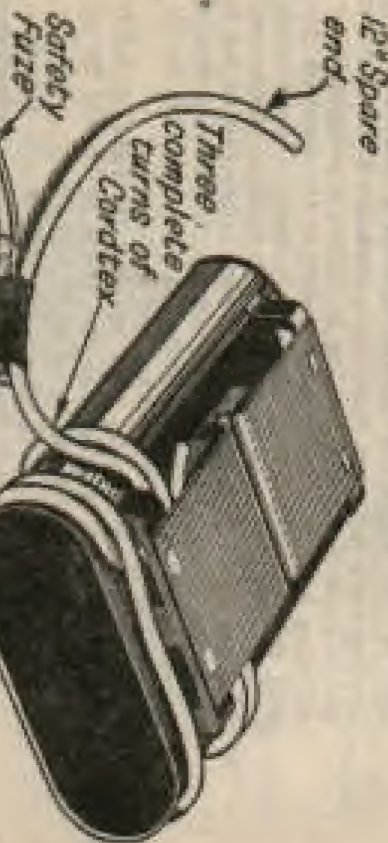

Fig. 6. No. 25 grenade prepared as a demolition charge
(b) *Initiation.*—The grenade will be initiated by wrapping three turns of detonating fuse (see Sec 5) round the end containing the primer, as shown in Fig 6. It is NOT to be detonated by the igniter set supplied for use when it is employed as an anti-tank mine. If an attempt is made to initiate it with detonator and safety fuse or detonating fuse in one of the normal detonator holes, failures up to 50 per cent may result. There are two reasons for this. First, when the detonator is fired by the igniter set (i.e. when in use as an anti-tank mine), the pressure on the plate tends to press the detonator down on to the priming charge. This does not occur when the grenade is used as a demolition charge. Secondly, the safety fuse may contract in length as it burns and drive the detonator back so that it is not directly over the priming charge when it explodes.
- Inserting safety fuse into detonator.*—Cut one end of the fuse with a sharp knife on a hard surface, taking care to make a clean cut; take a detonator from the box and empty any sawdust or other foreign matter out of it by tapping on the thumbnail. Insert the squared end of the safety fuse into the detonator and push it gently but firmly as far as it will go. Do NOT employ any screwing action. Hold the safety fuse between the third finger and thumb and crimp the detonator on to the fuse near the open end with a pair of crimping pliers, holding the detonator in place with the forefinger while doing so (see Fig 6); or use the machine spike of a jack knife. The use of the teeth is not recommended. NEVER CRIMP THE DETONATOR NEAR THE CLOSED END.
All ranks concerned must understand the possible causes of failure and must also realize that however much care is taken, no initiating set can ever be guaranteed as 100 per cent certain. The set cannot be tested; as the only test is to fire it. Consequently on all important demolition work, particularly assault work, and particularly always, **TWO INITIATING SETS SHOULD BE USED**. This gives a reasonable guarantee against failure. The use of two sets, whatever the importance of the job, is a good habit to form (see Fig. 6).
- Note.—The 75 grenade has a special primer incorporated in it and is initiated with 3 turns of cordtex round the end opposite the filter cap as shown in Fig 6.